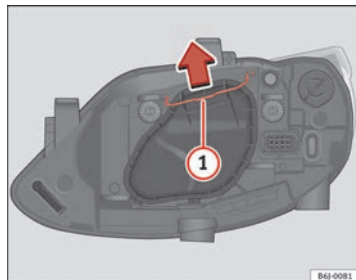

Fig. 144 Dipped beam/
- Move the loop ⇒ Fig. 144 ① in the direction of the arrow and remove the cover.